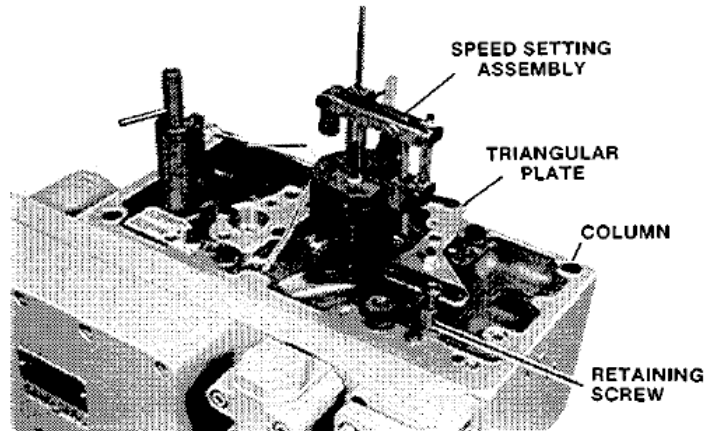

Figure 5-56. Speed Setting and Triangular Plate
33. Set speed-setting cylinder assembly in place and fit triangular plate under top of retaining screw. Secure both to column with screws and washers. Torque screws to 50 lb-in (5.6 N·m) (Figure 5-56).